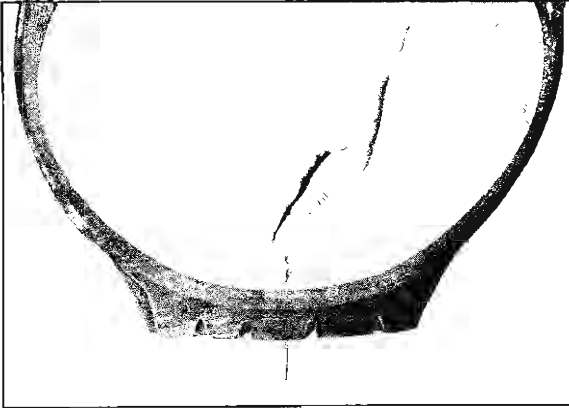

Fig. 14—Installing Needle in Tire Hole
- a. Clean awl needle and dip in Self-Vulcanizing Fluid. From inside of tire, force needle through tire until point extends beyond tread (fig. 14).